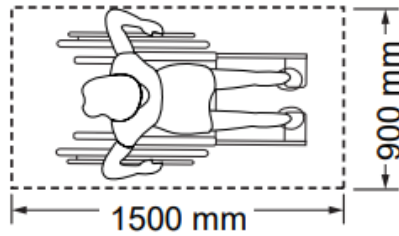

Figure 1: Clear Floor Space for a Front Approach
- 900 mm wide by 1500 mm long minimum for a front approach (See Figure 1)